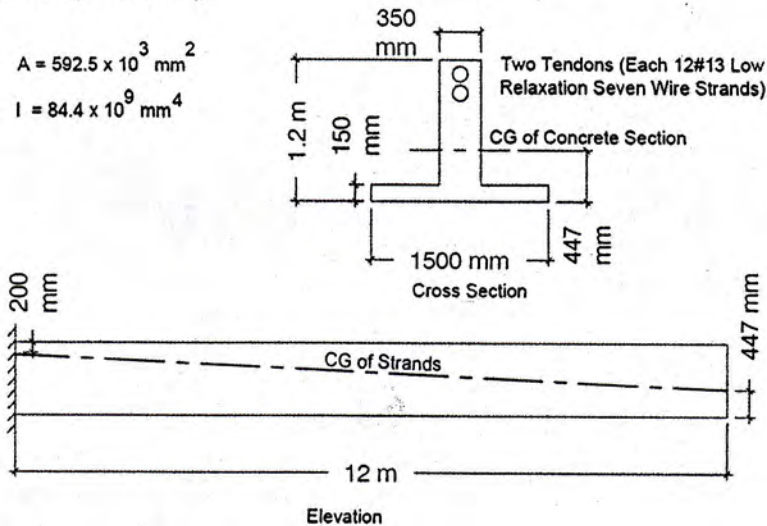

Fig. 2
- (c) A beam having an inverted T cross section is to be designed to carry a service live load of 17 kN/m and superimposed dead load of 6 kN/m in addition to its own weight, on a 12 m cantilever span as shown in Fig. 2. The member will be post-tensioned using two 65 mm tendons each composed of 12#13 low relaxation seven wire strands ($f_{po}=0.75 f_{pu}$). Concrete strength at 28 days is specified to be 30 MPa. Prestress losses can be estimated as $P_i = 0.95 P_o$ and $P_e = 0.90 P_o$. Calculate the fiber stresses after long-term losses have occurred (total load and P_e) in the concrete at the support and at the free end. Are these stresses acceptable (ACI code)? 15
- (c) Calculate the ultimate capacity of the beam shown in Fig. 2. If the capacity is 13 13